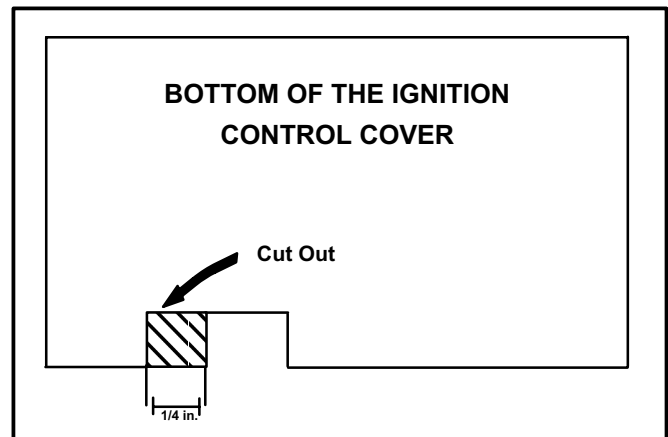

FIGURE 1
- 7 - Cut an additional 1/4" notch from the bottom of the ignition control cover. See figure 1.